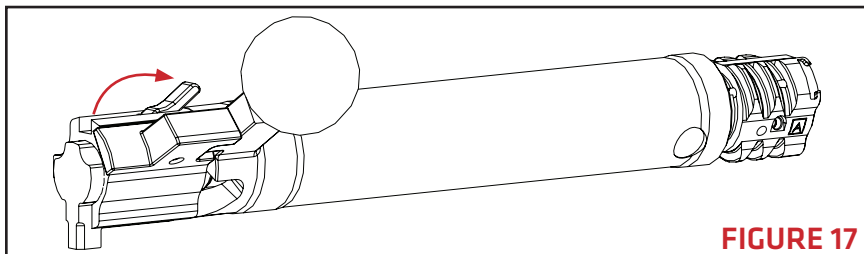

FIGURE 17
2. Rotate the cocking piece lever forward until it rests against the cocking piece shroud (**FIGURE 17**).